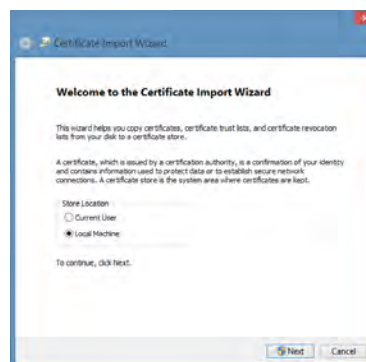

Figure 80: Certificate import wizard - local machine
7. Choose **Local Machine** and click **Next** (see Figure 80). Administrative privileges are required for this step; you may need to contact your IT department.